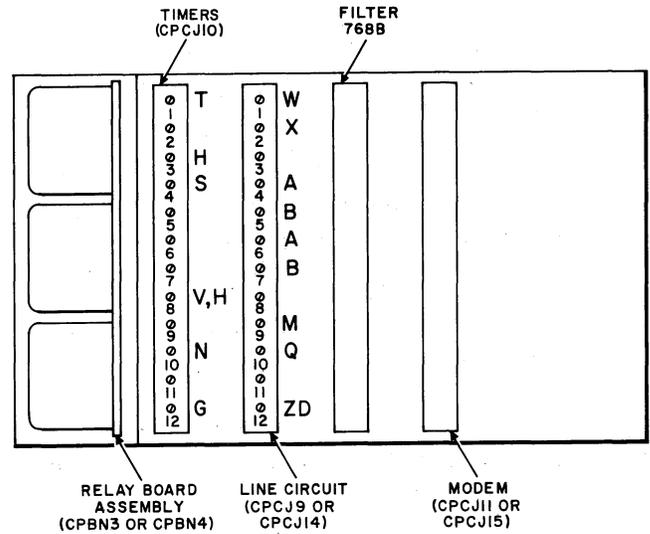

Fig. 3—Data Set 103-Type Option Screw Switches
2.03 Equip Data Set 103G-type with the options described in 2.02 by opening and closing the option screw switches on CJ10 and CJ9 circuit packs of the data set (Fig. 3) in accordance with Table A. All other options in the data set may be left as factory equipped.